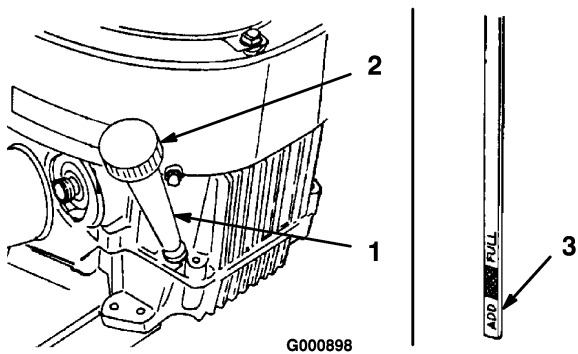

Figure 21
- Clean around the oil dipstick (Figure 21) so that dirt cannot fall into the fill hole and damage the engine.
- Unscrew the oil dipstick and wipe the metal end clean (Figure 21).